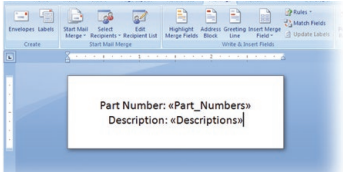

FIGURE 13 Word document ready to receive data from Excel Column B.
- K. Select **Column B** header. A **Column B space-holder** (<<Descriptions>>) appears next to the Column B header (Fig. 13).